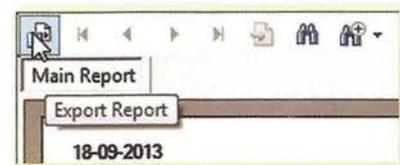

Fig 20: Export Report
1. At the top of the report preview, click Export (Figure 20).